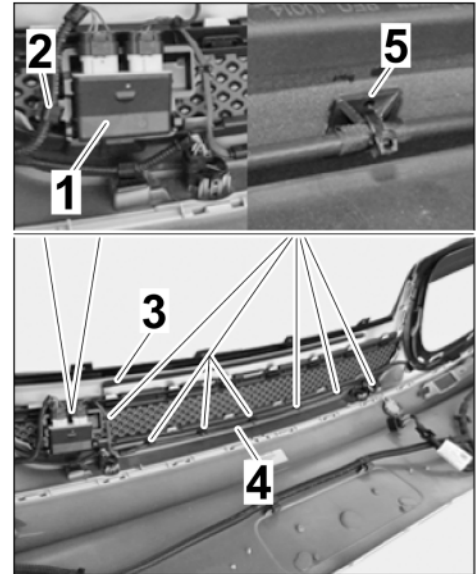

Figure 13
2.6.3 Position VIP holder on the guide lug (⇒ *Figure 13 -Arrow-*) on the center grille and press it on firmly.
(⇒ *Figure 13-top left*-).
Install clip into VIP holder (⇒ *Figure 13-top left*-).
- Pull protective film off adhesive tape on the flat-band conductor (sensor 1 ⇒ *Figure 13-3-*) and affix it underneath the center grille (⇒ *Figure 13-bottom-*).
- Pull protective film off holder for coaxial conductor (⇒ *Figure 13-5-*) and affix coaxial conductor firmly above the center grille (⇒ *Figure 13-bottom-*).